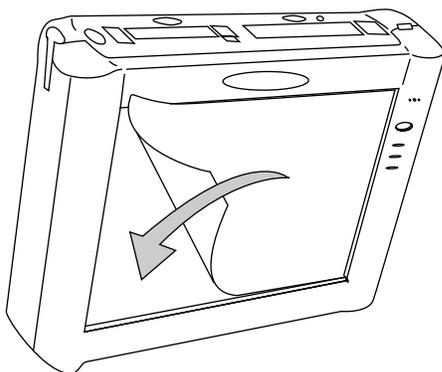

Figure 6. Applying the Screen Protector
4. Apply the screen protector with the adhesive side down and the notch in the lower left corner as shown in Figure 6. Apply pressure along the edges of the screen protector with your finger. (Avoid lifting the screen protector from the display window after it is installed. The adhesive requires 48 hours to cure completely.